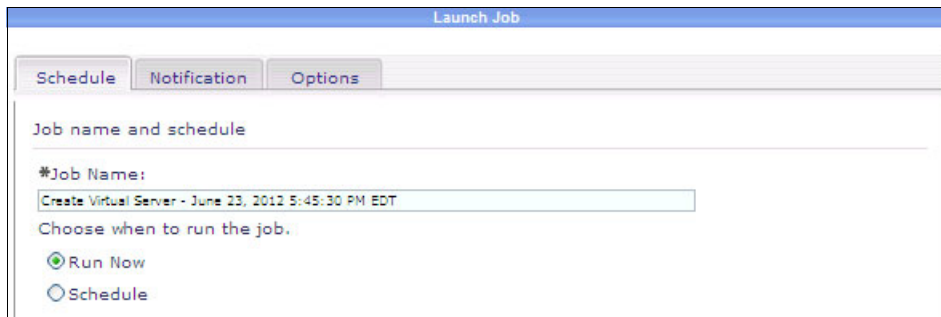

Figure 12-24 Run now
10. Click **OK** to run your virtual server creation task as shown in Figure 12-24.